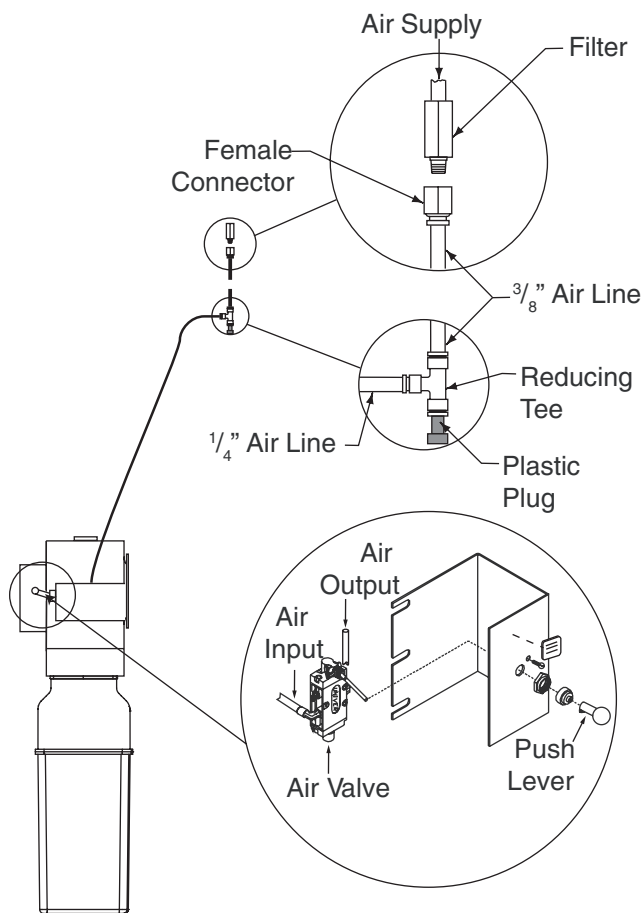

Fig. 24
- B. Connect air valve to Reducing Tee, Fig. 24. Cut provided  $\frac{1}{4}$ " air line tubing with sharp blade to length as required. Tubing must be cut square with no burrs.
- C. Use Housing Collar to secure the Air Valve to the Air Valve Bracket, Fig. 24.
- F. Connect Reducing Tee to female connector, Fig. 24, using  $\frac{3}{8}$ " air line tubing. Attach filter to female connector and connect into existing facility air supply. Make sure plastic plug is in bottom opening of Reducing Tee.
- I. Actuate air valve and check latch operation on all four (4) corners. When releasing locks, the locking latch should pull back flush with yoke end to clear the latch bar located in all four (4) columns, Fig. 24. Adjust, if required, by removing cotter pin and washer holding Slotted Bracket on locking latch and screwing Slotted Bracket in to move it toward the air cylinder. After adjustment, replace washer and secure Slotted Bracket with a NEW cotter pin. Tighten jam nut. Apply Loctite® to jam nut to hold in place.